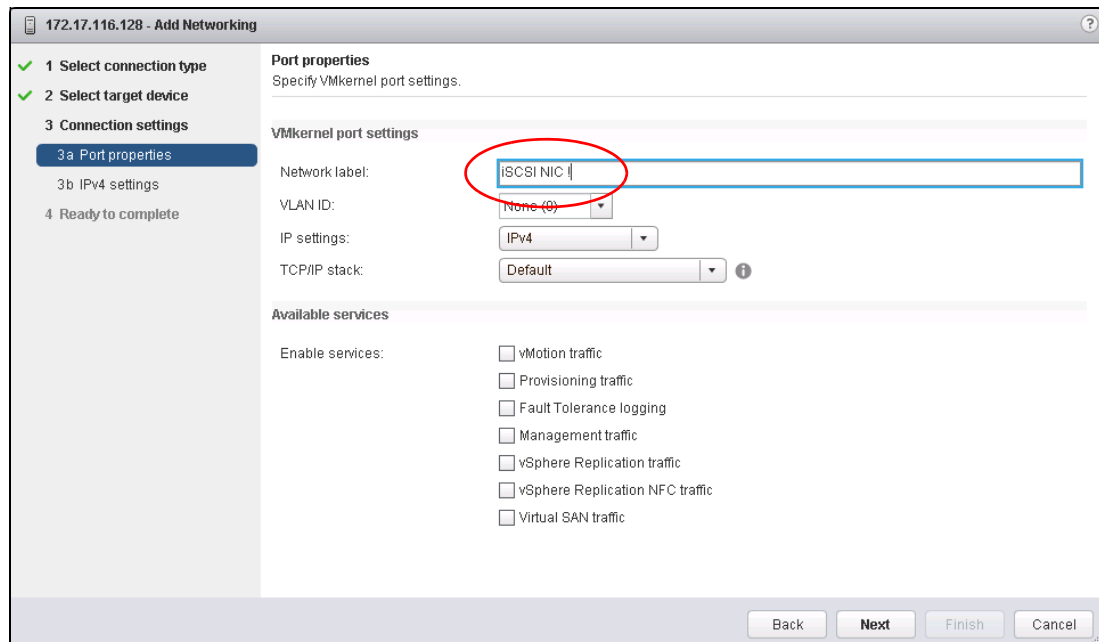

Figure 5-23 VMware: Enter a network label
5. Enter a meaningful network label and click **Next** (Figure 5-23).